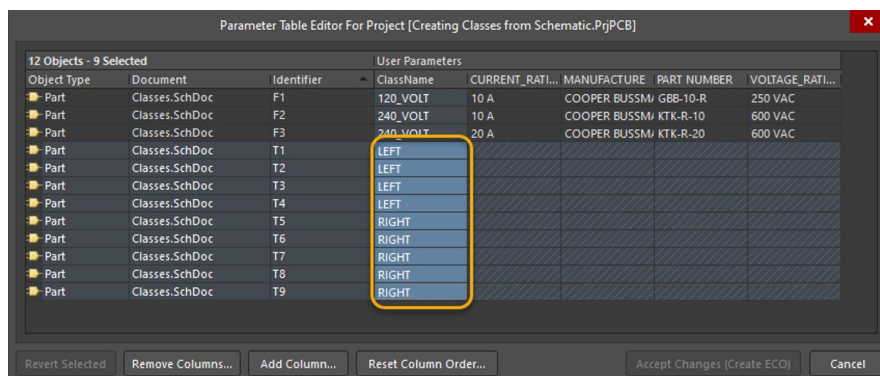

Figure 6. Populated Parameter Table
39. Your parameter table should now look similar to what is shown below, Figure 6.